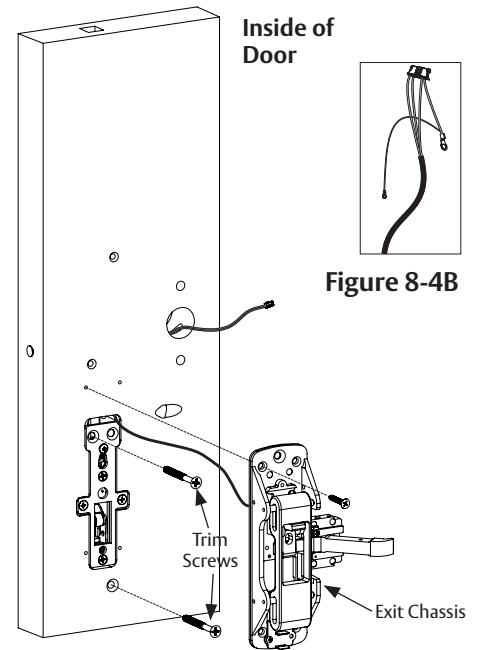

Figure 8-4A
1. Mount exit chassis loosely, using only the top left mounting screw. Screw should support the weight of the chassis but allow it to move freely while routing the wiring and mounting exit trim. (Figure 8-4A).
3. Insert two (2) trim mounting screws. (Figure 8-4A)